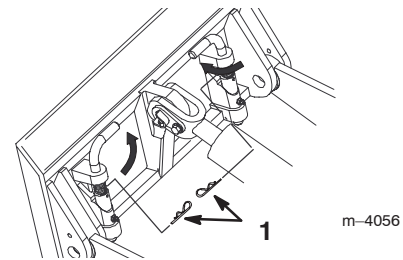

Figure 7
- When plowing long runs it is advisable to install two hairpin cotters through the spring and quick attach pins on the mount plate (Fig. 7). This will ensure that the vibration of the plow will not cause the pins to come loose.